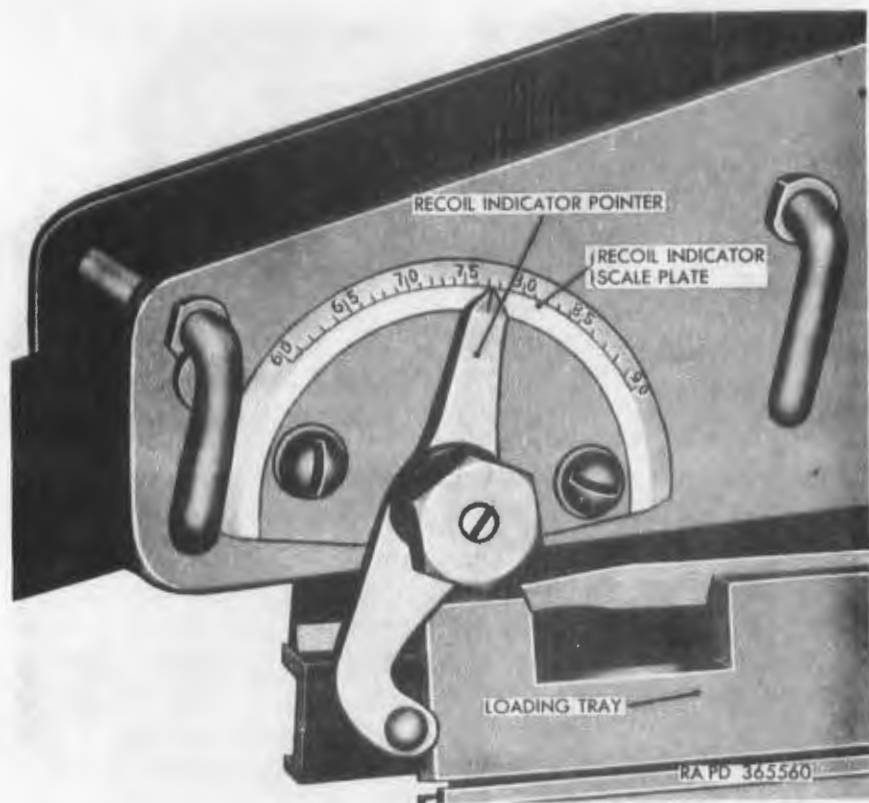

Figure 292. Loader tray striking recoil indicator pointer.
tween 7.4 and 8.3 inches. The most desirable length is 7.83 inches. The length of recoil is measured by means of the recoil indicator pointer (fig. 292) while the gun is being fired. Proceed as follows:
- (a) Press lower arm of recoil indicator pointer (fig. 292) forward, causing the pointer to register 60 (6 in.) on the recoil indicator scale plate.